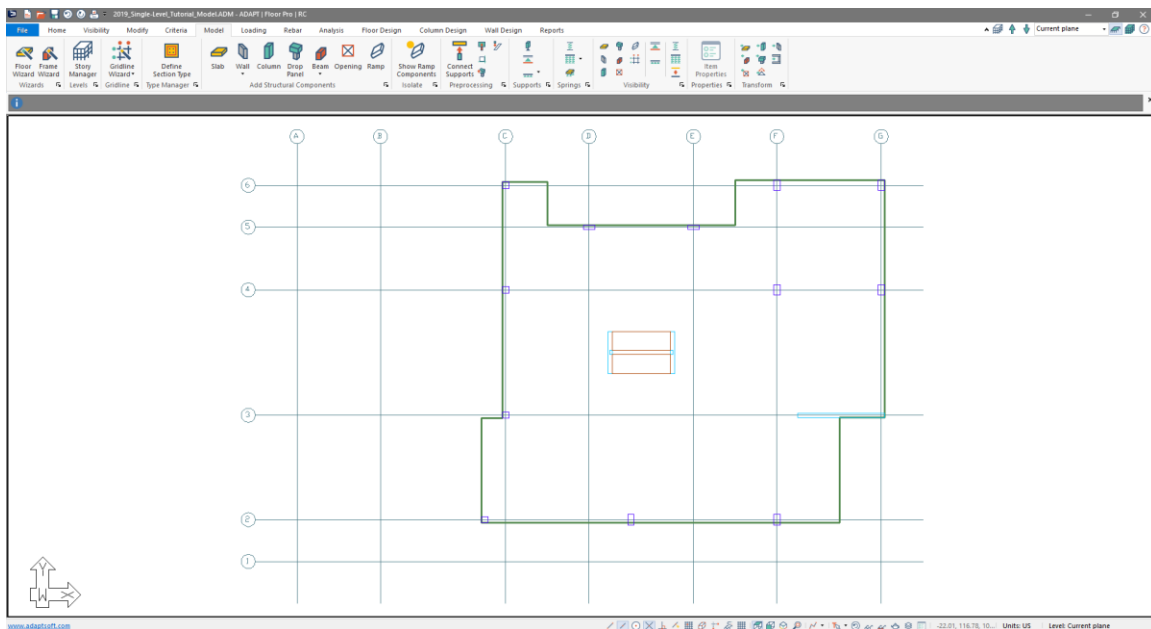

Figure 2-36
- Click on the **Zoom Extents** icon. The user should see the Level 4 floor plan modeled within Builder as shown in **FIGURE 2-36**.